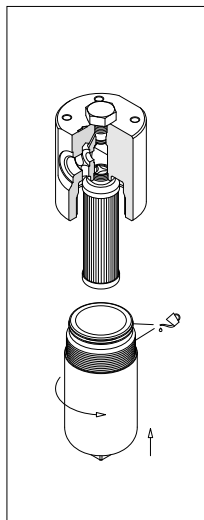

fig. 13
- (Fig. 13) Lubricate the thread and the O-ring of the bowl, then screw the bowl in referring to the tightening torque table in paragraph 3